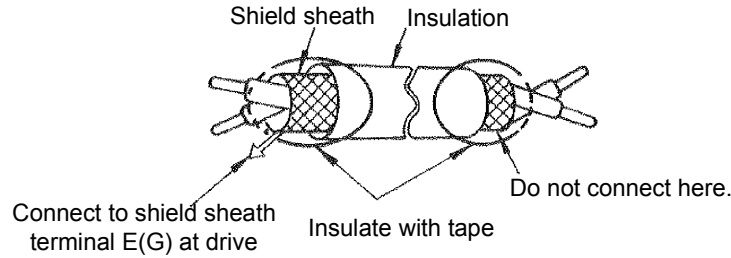

Figure 2.7 Preparing the Termination of Shielded Twisted-pair Cables
4. Use twisted-pair or shielded twisted-pair cables for control circuits to prevent operating faults. Prepare cable ends as shown in Figure 2.7.
5. Connect the shield wire to terminal E (G).